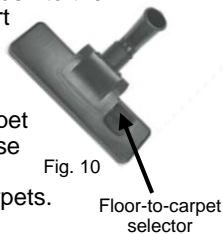

Fig. 10
2. Push the floor-to-carpet selector forward to use on bare floors. Push it back for use on carpets. (Fig. 10)